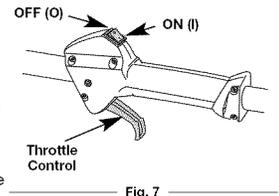

Fig. 7
- NOTE:** There is no need to turn the unit on. The On/Off Stop Control is in the ON (I) position at all times (Fig. 7).
- Press and hold the On/Off Stop Control switch in the OFF (O) position until the unit comes to a complete stop (Fig. 7).